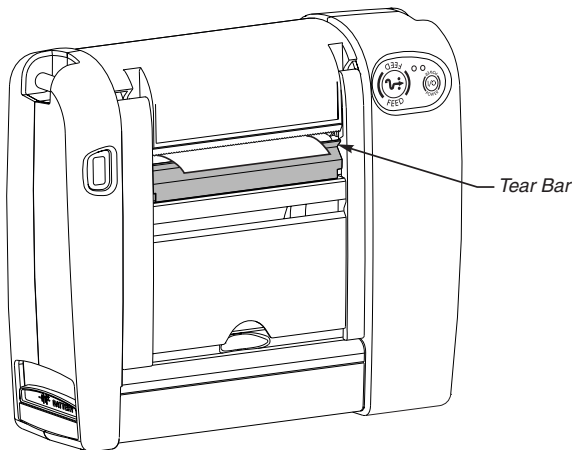
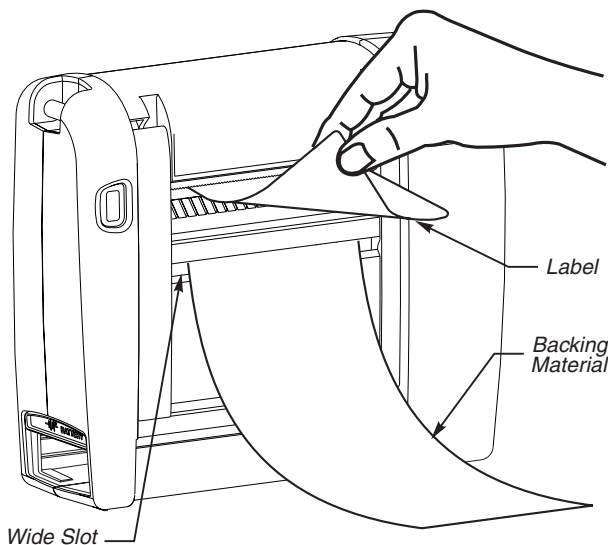

FIGURE 8
FIGURE 10
11. Swing up the media access door, ensuring that the media extends over the tear bar (refer to Figure 8).
11. Swing up the media access door, ensuring that the media liner is threaded through the wide slot in the media access door (refer to Figure 10).
☞ *NOTES. To ensure optimal print quality, make sure that the backing material is flush against the peel bar (as shown in Figure 10). If it starts to “loop “ away from the peel bar, gently pull down on the backing material*
5. Close the printhead (refer to Figure 16) and the top cover. Swing up the media access door, ensuring that the media is properly extending out of the printer (see Figure 8 for Tear-Off, or Figure 10 for Peel-Off).